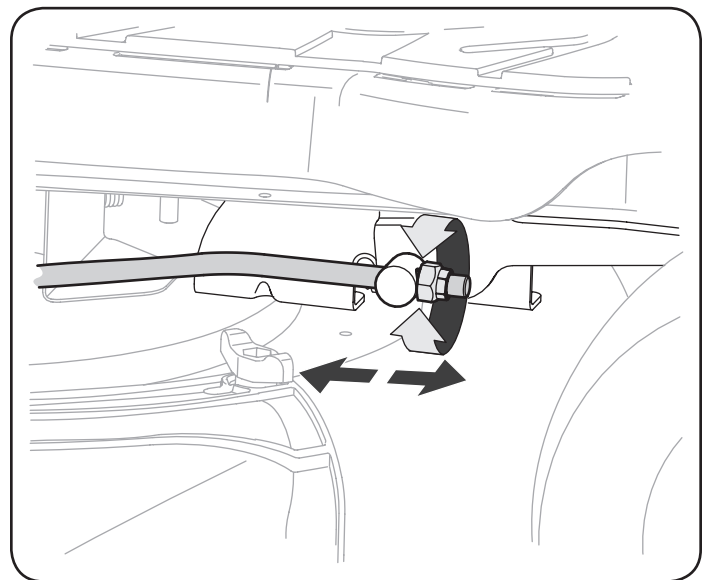

Figure 46
1. With the tractor parked on a firm, level surface, place the lever for lifting the cutting deck into the middle position (3) and rotate the blade so that it is aligned with the front and rear of the tractor.
3. Locate the flange lock nut on the front end of the PTO Lift Rod. See Figure 46.